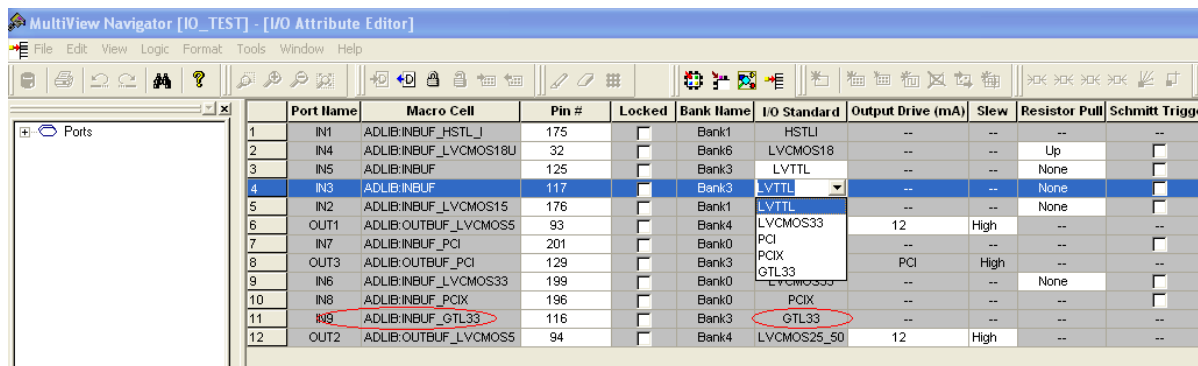

Figure 8-7 • Assigning a Different I/O Standard to the Generic I/O Macro
- Users will need to use the I/O Attribute Editor in Designer to change the default I/O standard if needed (see Figure 8-7 on page 203).
- The I/O standard of technology-specific I/O macros cannot be changed in the I/O Attribute Editor (see Figure 8-7).